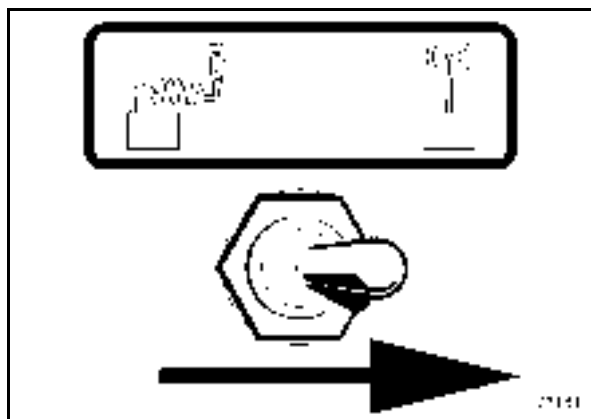

Fig. 33
- For radio operation of the machine switch the toggle switch (Fig. 33) to the right.